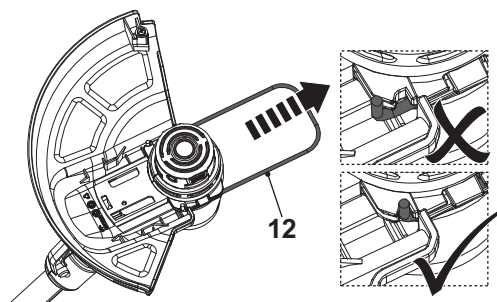

Fig. 11, trimming / edging position
1. Pull the plant protector (12) out until it locks in place for trimming / edging operation (Fig. 11).